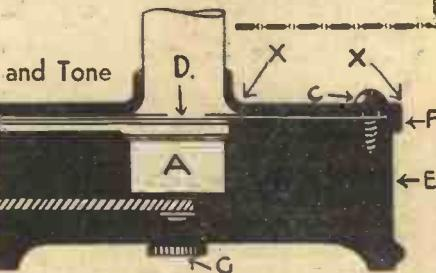

Fig. 2.—Diagrammatic illustration of the partially held diaphragm, and pole piece adjustments.
The re-arranged unit (see Figs. 1 and 2) provided for a semi-rigid diaphragm and horizontal movement of the magnet coils, in addition to the up and down adjustment of the latter. The first part of the alterations was not difficult. About two-thirds of the upper rim of the base (shown blank in Fig. 1) was filed down, taking off approximately 1/64 of an inch, and a similar operation was performed on the corresponding portion of the inside face of the cap. Fig 2 shows the resultant fit. The diaphragm (D) is held in position by a section of the cap and base (X-X, Fig. 2), the latter being clamped with three screws instead of eight. Thus, approximately, five-